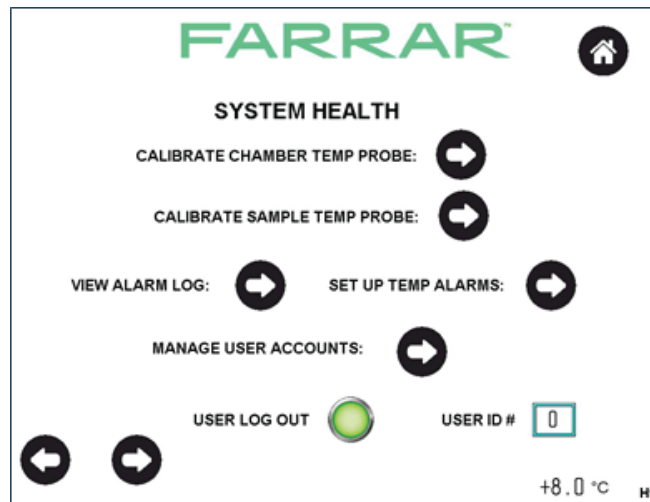

Figure 31: System Health screen
8. Press the checkmark next to the desired step type (see step options listed under “change step type” in Figure 31).